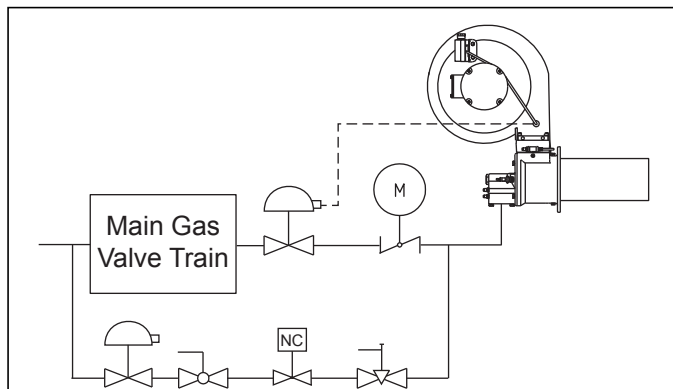

Figure 3.8 Bypass Gas Pressure Regulator via Independent Pressure Regulator
- Provide a bypass gas pressure regulator. (See Figure 3.8)